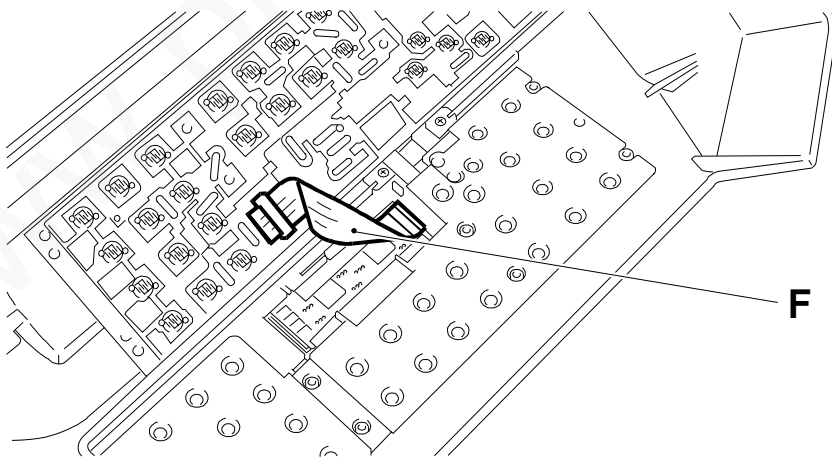

Fig. 7-54
- 3) Disconnect flat cable F of the display from the board (Fig. 7-54):